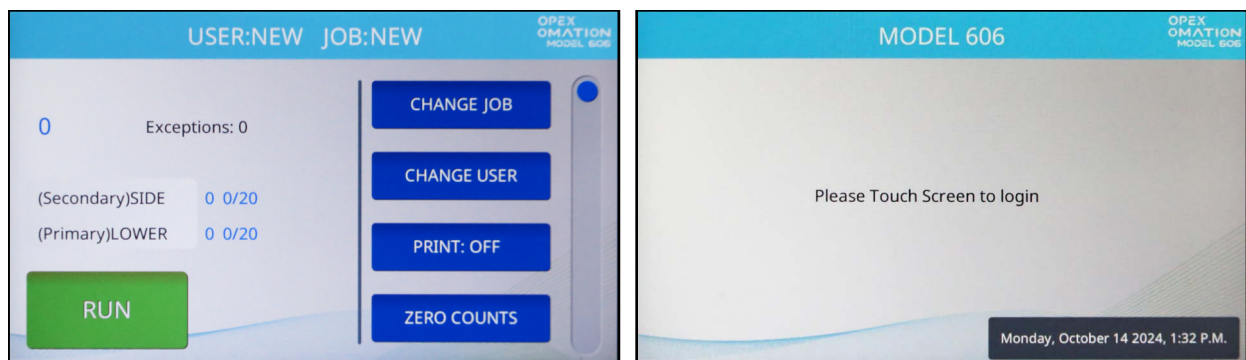

Figure 5-2: Main Screen (left) or login prompt (right) appears
2. By default, the OM606 will then switch to the Main Screen, logged in with the default User and Job selected (Figure 5-2, left). If multiple Users have been configured, it will log in with the most recent one used.
If passwords have been enabled by the Supervisor, the OM606 will instead display a prompt to touch the screen to login (Figure 5-2, right).